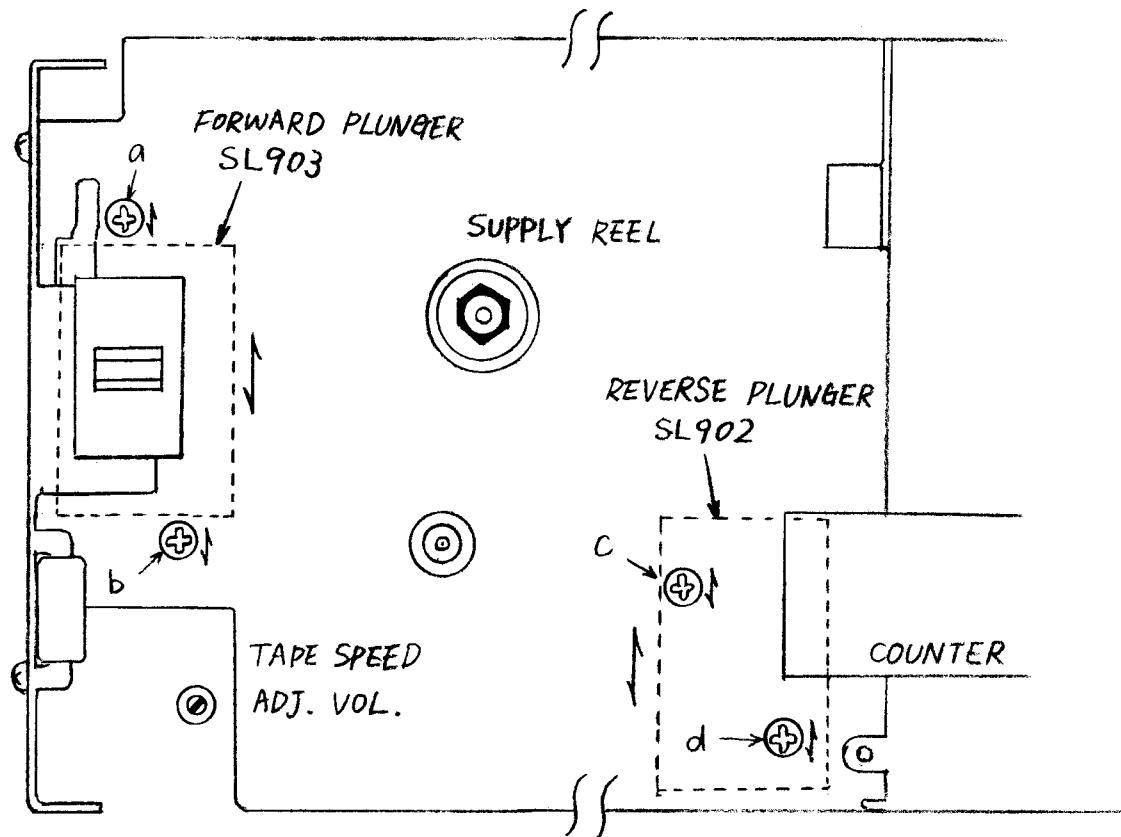

Fig. 3-1
## 1) Forward Plunger Adjustment (Refer to Figs. 3-1, 3-2)
## 3) Reverse Plunger Adjustment (Refer to Figs. 3-1, 3-3)
4. TAPE SPEED ADJUSTMENT (Refer to Fig. 3-1)